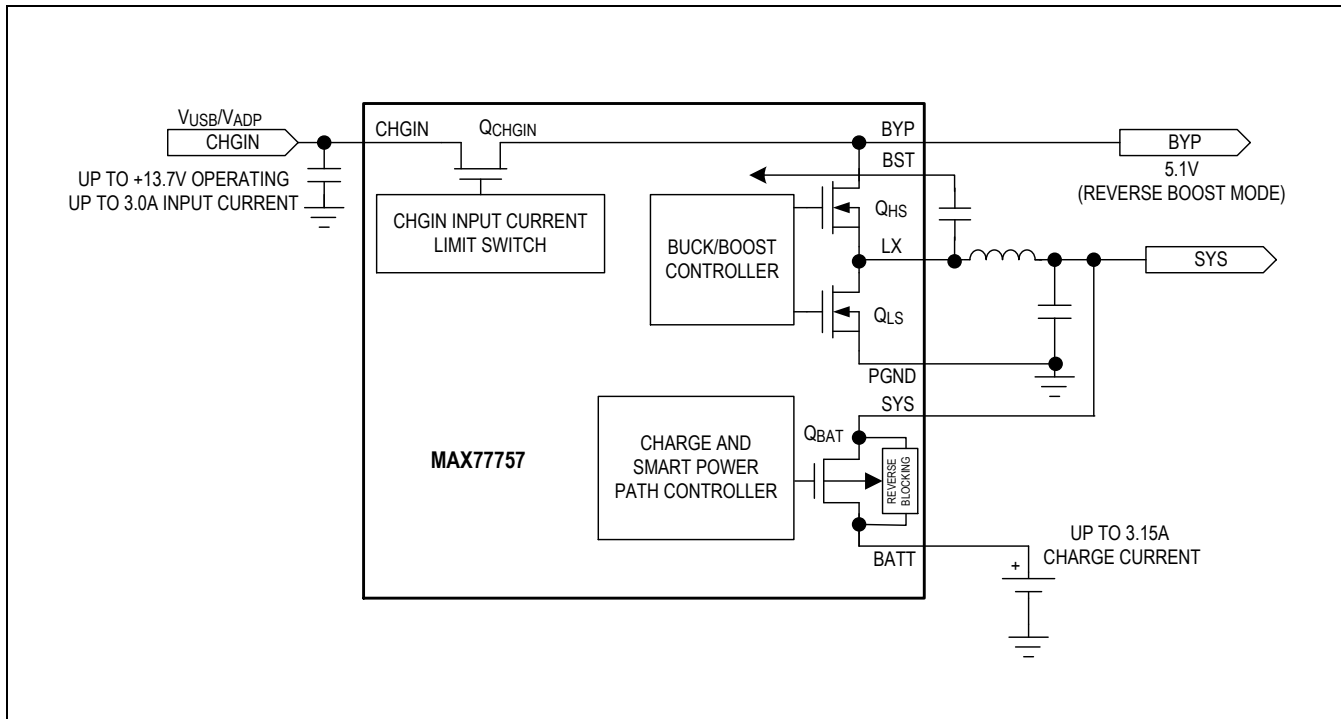
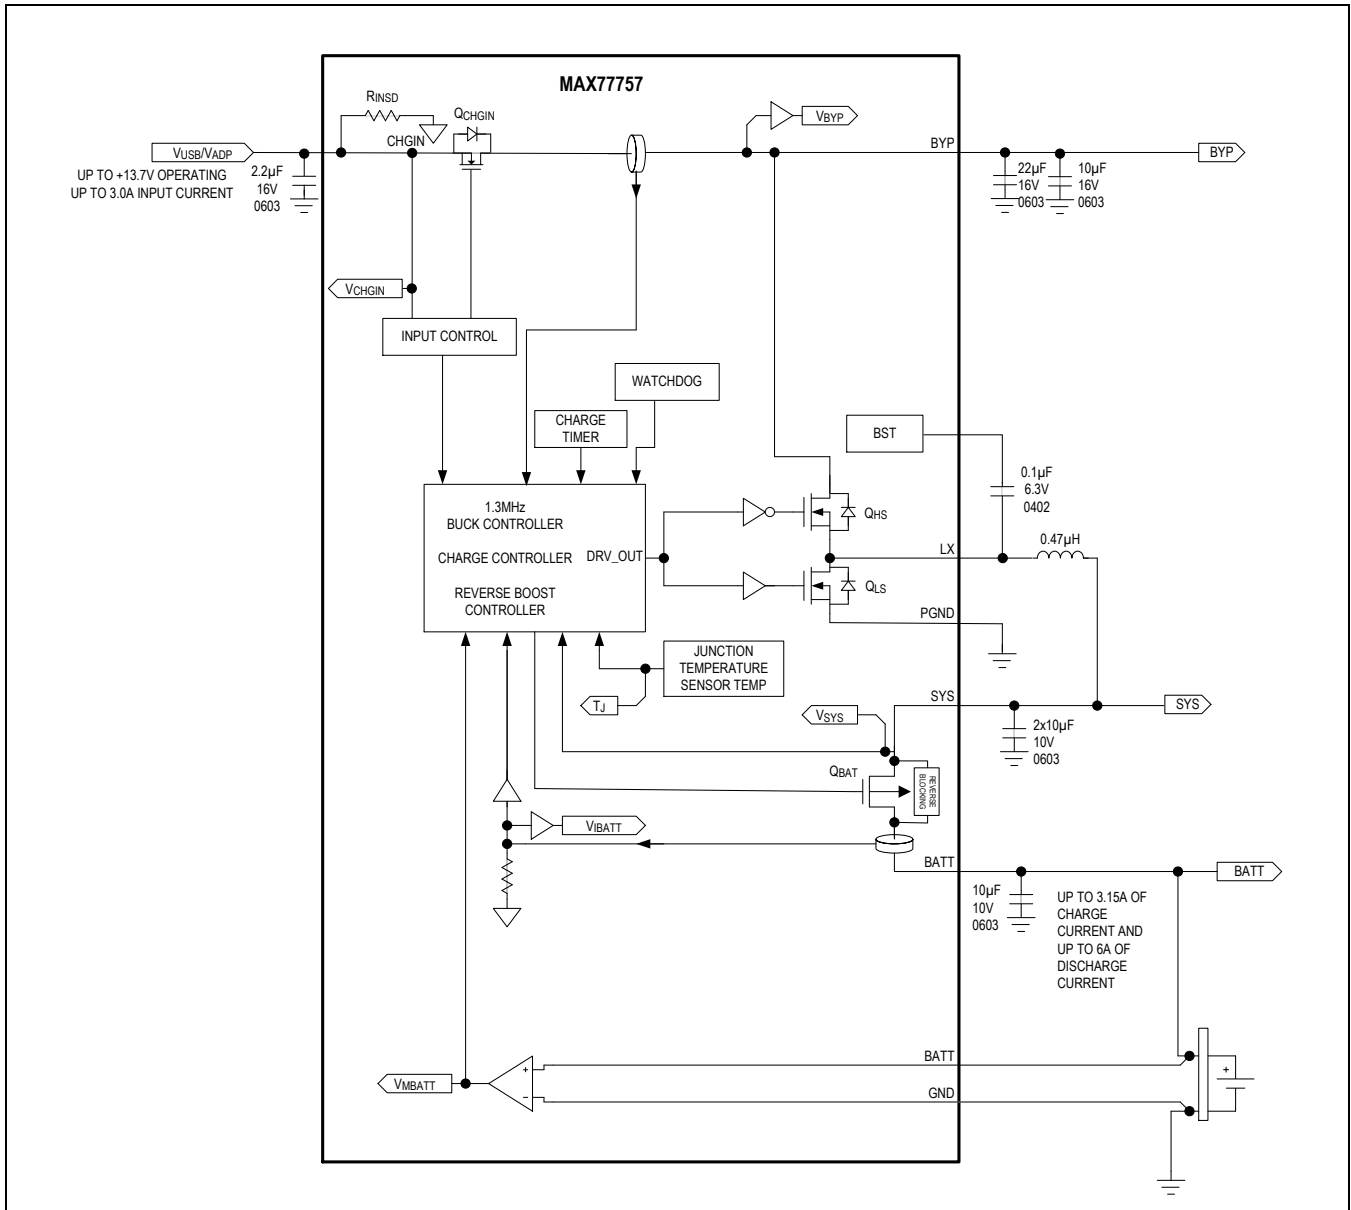

Figure 1. Simplified Functional Diagram
Figure 2. Main Battery Charger Detailed Functional Diagram
The MAX77757 is a switch-mode charger for a one-cell lithium-ion (Li+), lithium polymer (Li-polymer), or LiFePO4 battery. The current limit for CHGIN input is configured automatically allowing the flexibility to connect to either an AC-to-DC wall charger or a USB port, as shown in Figure 2.
Figure 1 shows a simplified arrangement for the smart power selector's power steering switches. Figure 2 shows a more detailed arrangement of the smart power selector switches with the following names: QCHGIN, QHS, QLS, and QBAT.
- CHGIN Input Switch: QCHGIN provides the input overvoltage protection of +16V. The input switch is either completely on or completely off. As shown in Figure 2, there are SPS control loops that monitor the current through the input switches as well as the input voltage.